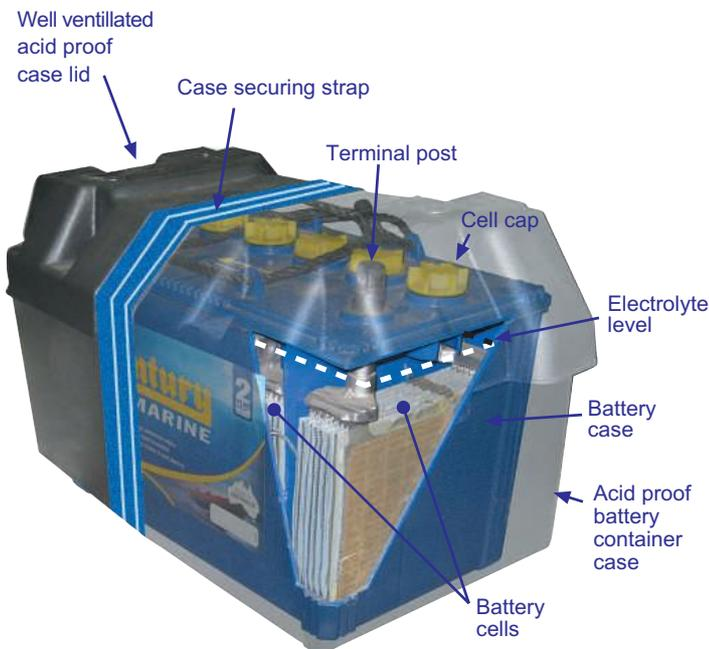

Figure 15.1 Stylised illustration of marine battery inside an acid proof case, showing features as described in text.
- Make sure also the electrolyte level is kept to the manufacturers specifications and cell caps are off when charging a wet cell battery (Figure 15.1).